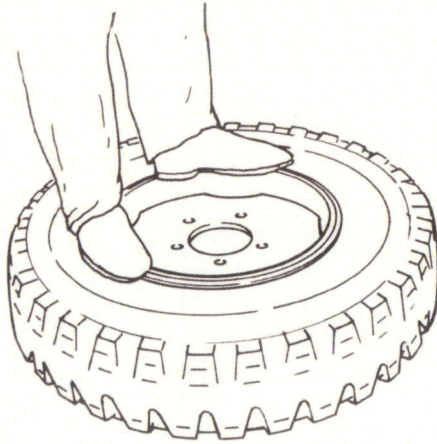

Figure 2-7 Side ring installation
- k. Position the side ring on the rim, then stand on the ring to position it below the rim groove (see Fig. 2-7).